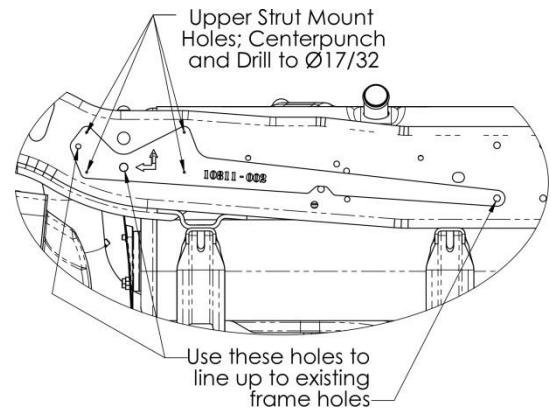

Figure 9. Frame Drilling Template Driver Side Location
12. Locate the frame drilling template and place it along the driver side frame as shown in Figure 9.
13. Center punch, mark, or drill with $1/8''$ bit the holes indicated in Figure 9.